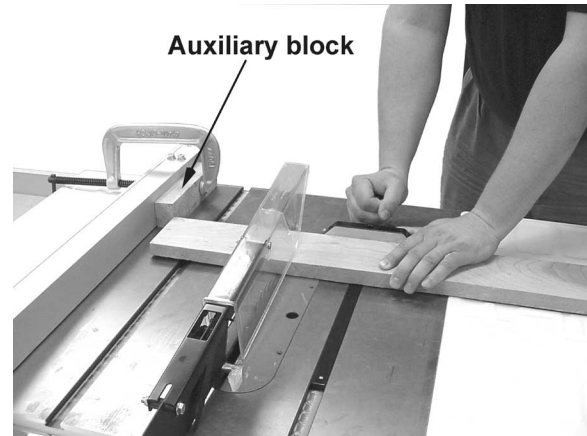

Figure 33
- Do not use the miter gauge and rip fence in the same operation unless provision is made by use of a facing board on the fence so as to allow the cutoff section of the workpiece to come free before the next cut is started (See Figure 33).
Crosscutting should **never** be done freehand nor should the fence be used as an end stop unless an auxiliary block is clamped to the front of the blade area such that the cutoff piece comes free of the block before cutting starts (Figure 33).